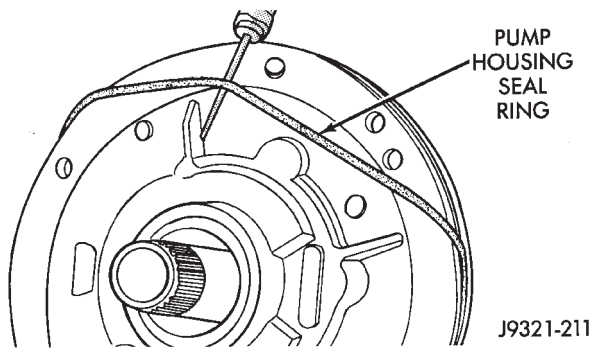
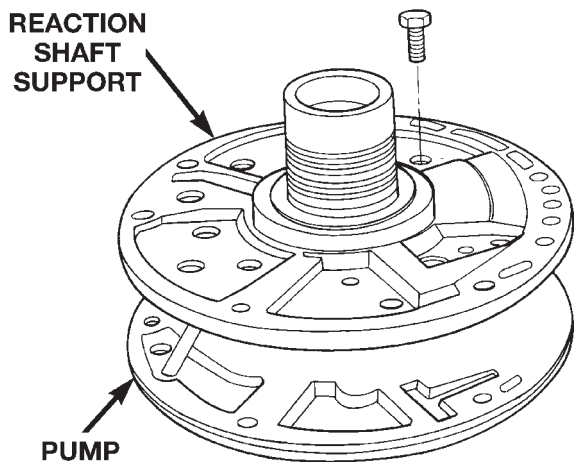

Fig. 118 Removing Pump Seal Ring
Fig. 119 Pump Support Bolts
- (1) Remove seal ring from housing and reaction shaft support (Fig. 118).
- (2) Mark pump housing and support assembly for alignment reference.
- (3) Remove bolts attaching pump body to support (Fig. 119).